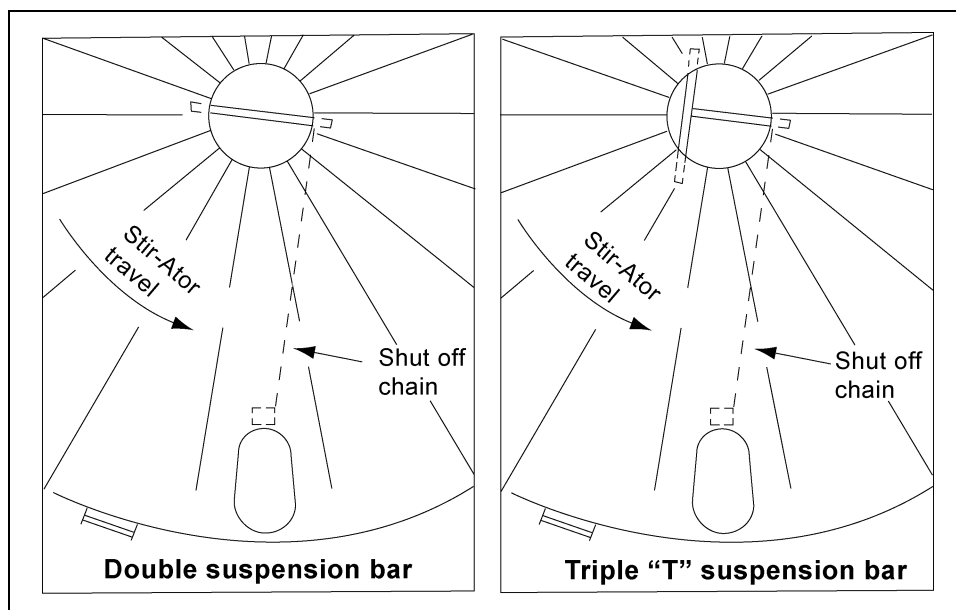

Figure 4F Viewed from Top of Bin
7. Is the suspension bar positioned so that the bin "S" hook, to which the shut off chain is attached, is at a right angle to the switch box chain, as shown in Figure 4F on Page 18. THE POWER CORD MUST HAVE MORE SLACK THAN THE SHUT OFF CHAIN or the power cord could be torn out of the switch box if the Design III should malfunction and engage the shut off.
1. The bin roof is then assembled and the suspension chains are dropped through the fill-hole. **Two (2) chains are used on the double auger units and three (3) chains are used on the triple auger units.** Space the suspension hooks equally apart around the center fill-hole collar, placing them in reference to the manhole where the shut off switch box is to be located. Place chains through the hole and then slide the chain down into the slot. (See Figure 4F and Figure 4G.) A hole in the suspension hooks is provided if bolting the hooks in position is desired. **NOTE: For GSI bins larger than 33' diameter an alternate method of mounting is to attach suspension chain to intermediate center collar.** (See Figure 4H on Page 19.)